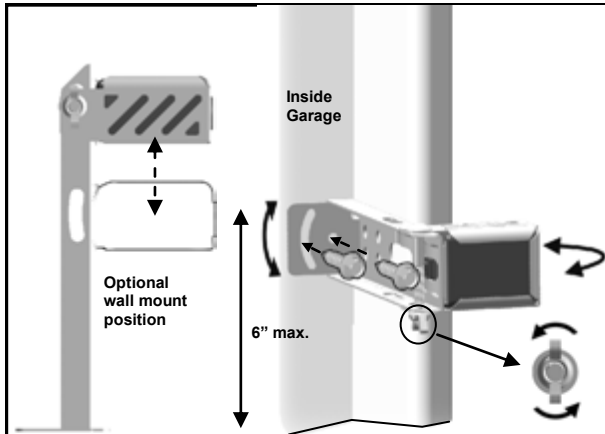

Fig. 1 (Wall-Mount)
1. Place the Photo Eyes facing each other on each side of the garage door. Position the sensors so they are no higher than 6" (15cm) above the floor, as shown in Fig.1.